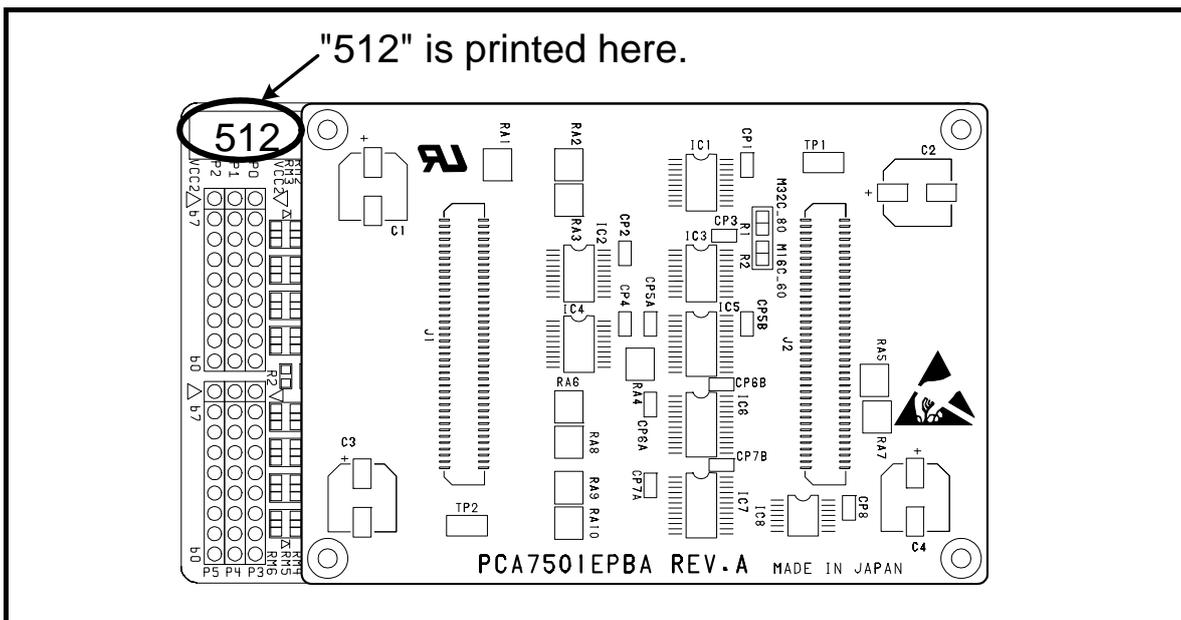

Figure 1.1 Printed area on the M3062PT2-EPB
- \* To distinguish the other emulation probe for M16C/60 Series, "512" is printed on the corner of this product. Figure 1.1 shows the printed area.